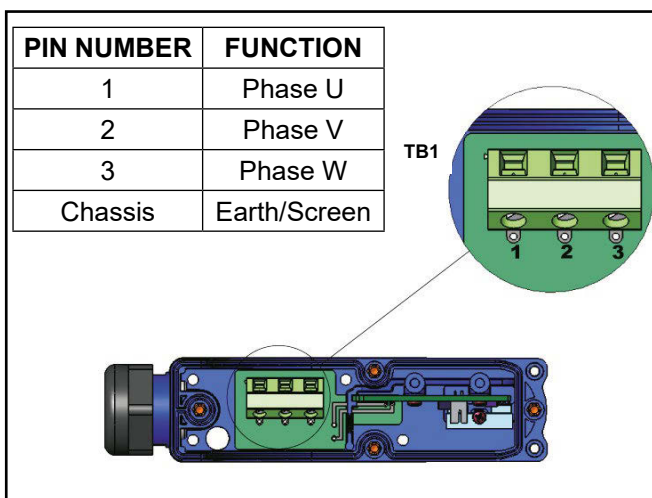
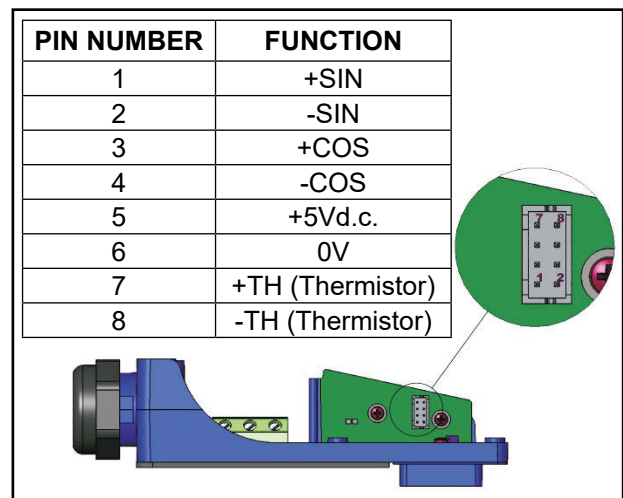

Figure 3.6
Figure 3.7
- Remove the pod lid from the termination box to reveal the cable termination connectors inside, see Figure 3.6 and Figure 3.7.
- Unplug the sensor cable from the vertical PCB at connector PL1 (see Figure 3.7).
- Connect the power cable leads to TB1 and the earthing point. Refer to Figure 3.6 for the connection table.